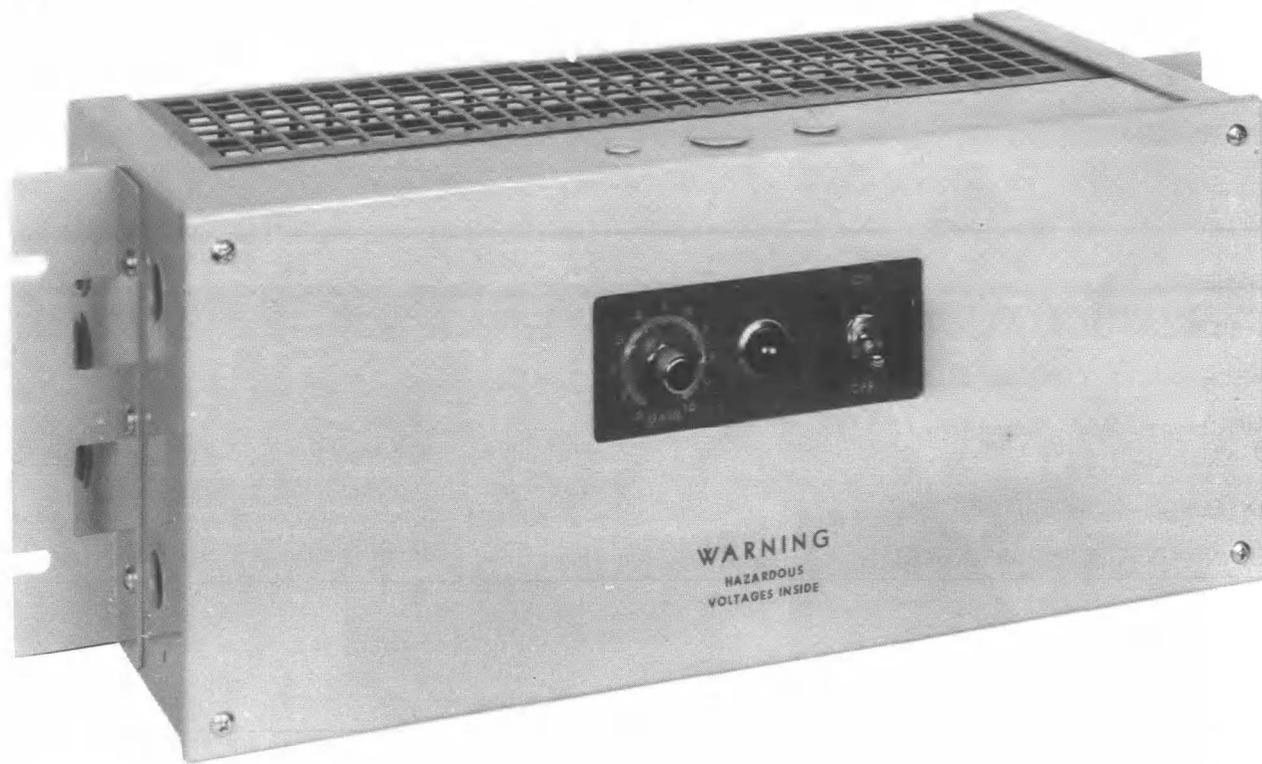

Fig. 1 – Front View with Covers Assembled
1.05 Fig. 1 shows a photograph of the amplifier with the cover mat and perforated rear cover assembled. The mounting brackets, which are held in place by screws, are also shown.